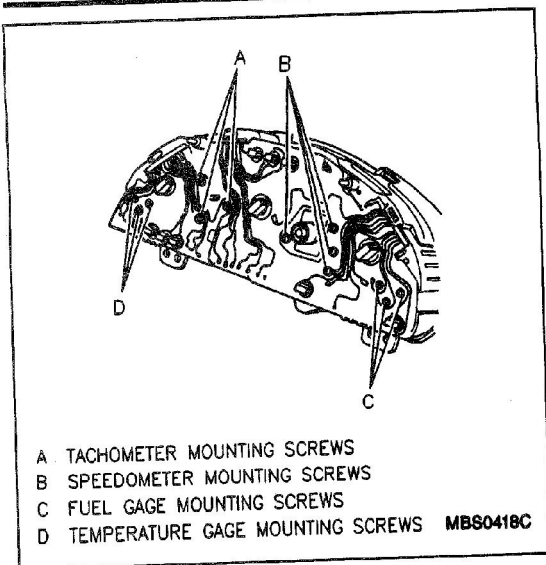

Figure 10—Gage Mounting Screws
4. Three screws and fuel gage from instrument cluster housing (Figure 10).
4. Four screws and speedometer from instrument cluster housing (Figure 10).
4. Three screws and tachometer from instrument cluster housing (Figure 10).
4. Three screws and temperature gage from instrument cluster housing (Figure 10).
Figures 10 and 11
4. All screws from rear of instrument cluster assembly (Figure 10).